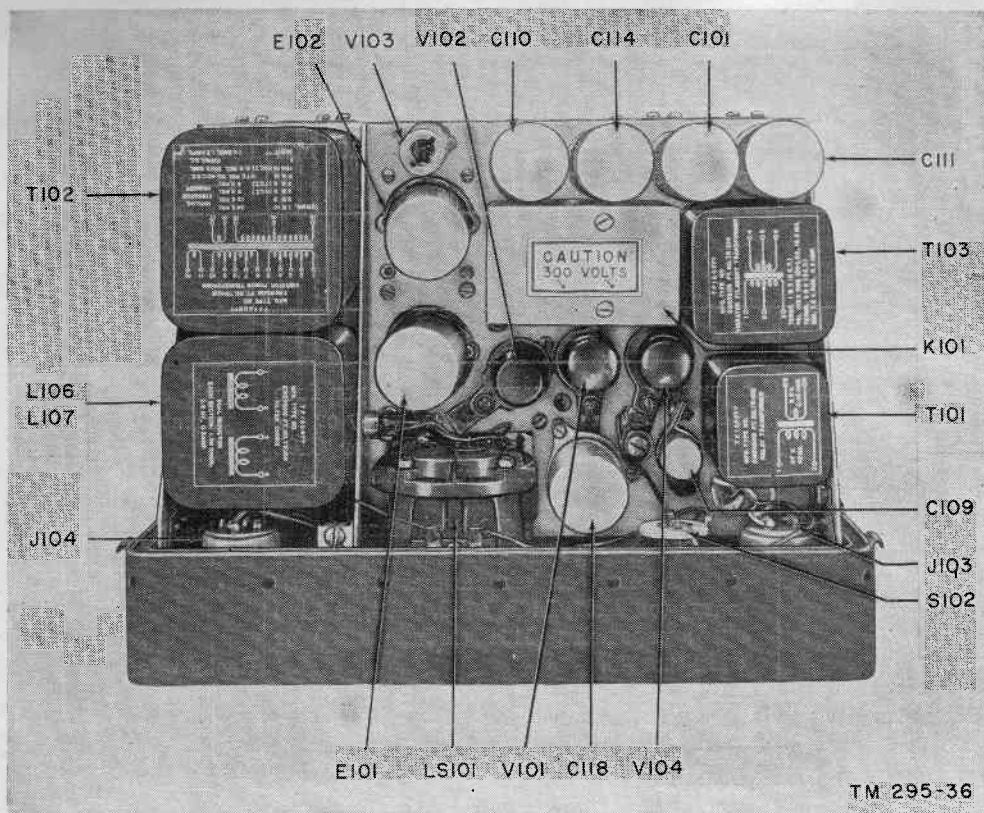

Figure 35. Power Supply PP-308/URR, top view of chassis, with cover removed.
| Fig. 35 | Power Supply PP-308/URR, top view of chassis, with cover removed. |
77. Trouble-Shooting Charts for Power Supply PP-308/URR (figs. 35, 36, and 44)